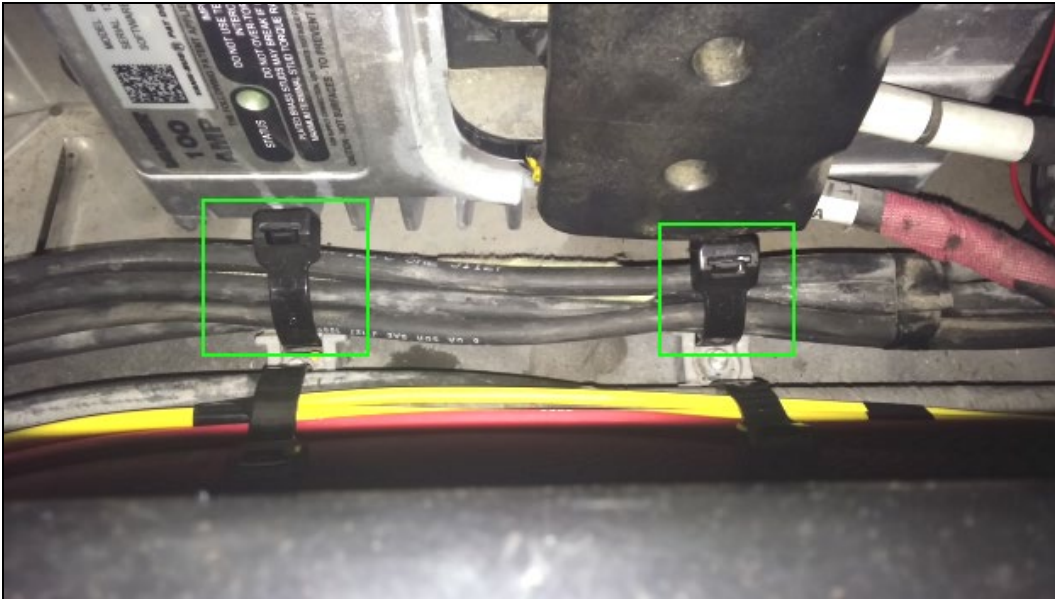

Fig.14 Installed cable ties
14. Reinstall new cable ties at the bottom of the battery box if previously removed during step 7 (Fig.14).